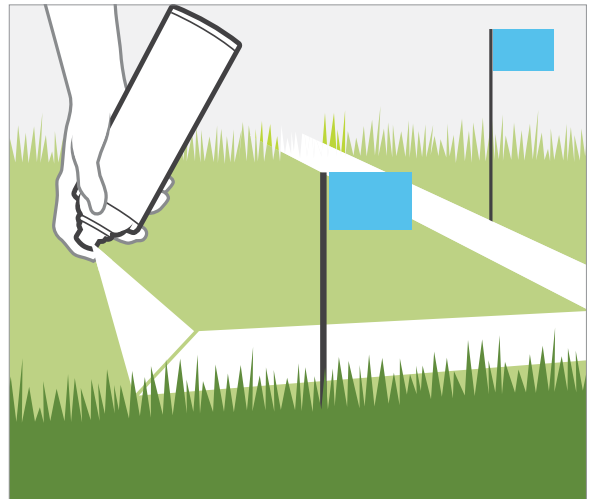

Figure 1
1. Using marking spray paint and small flags, indicate the pipe lines from the P.O.C. to the valve manifold locations. Mark the layout of the irrigation system Figure 1.